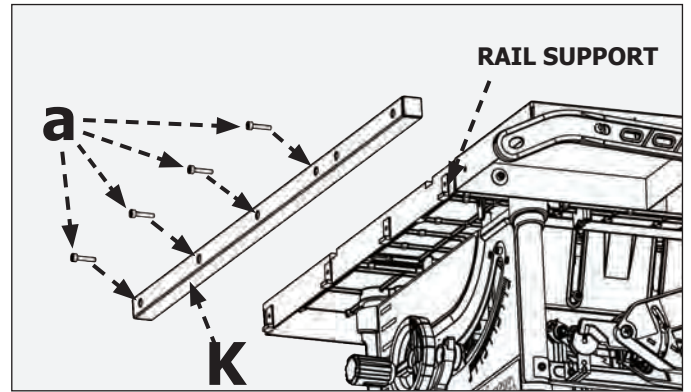

Figure 2
Attach fence rail (K), scale side up (16 in. side of scale to the right), to the front of the saw using (4) M5 x 25mm hex socket cap screws (a) as shown in Fig. 2, making sure rail is properly seated on each rail support on the front of the table.